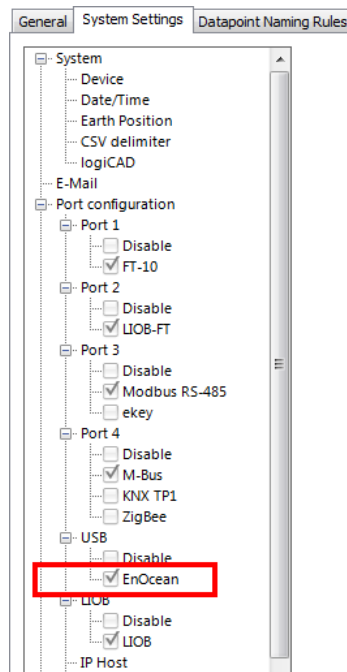

Figure 307: Enabling EnOcean in the Project Settings Dialog.
2. In the **System Settings** tab enable the EnOcean protocol on the USB port, as shown in Figure 307.